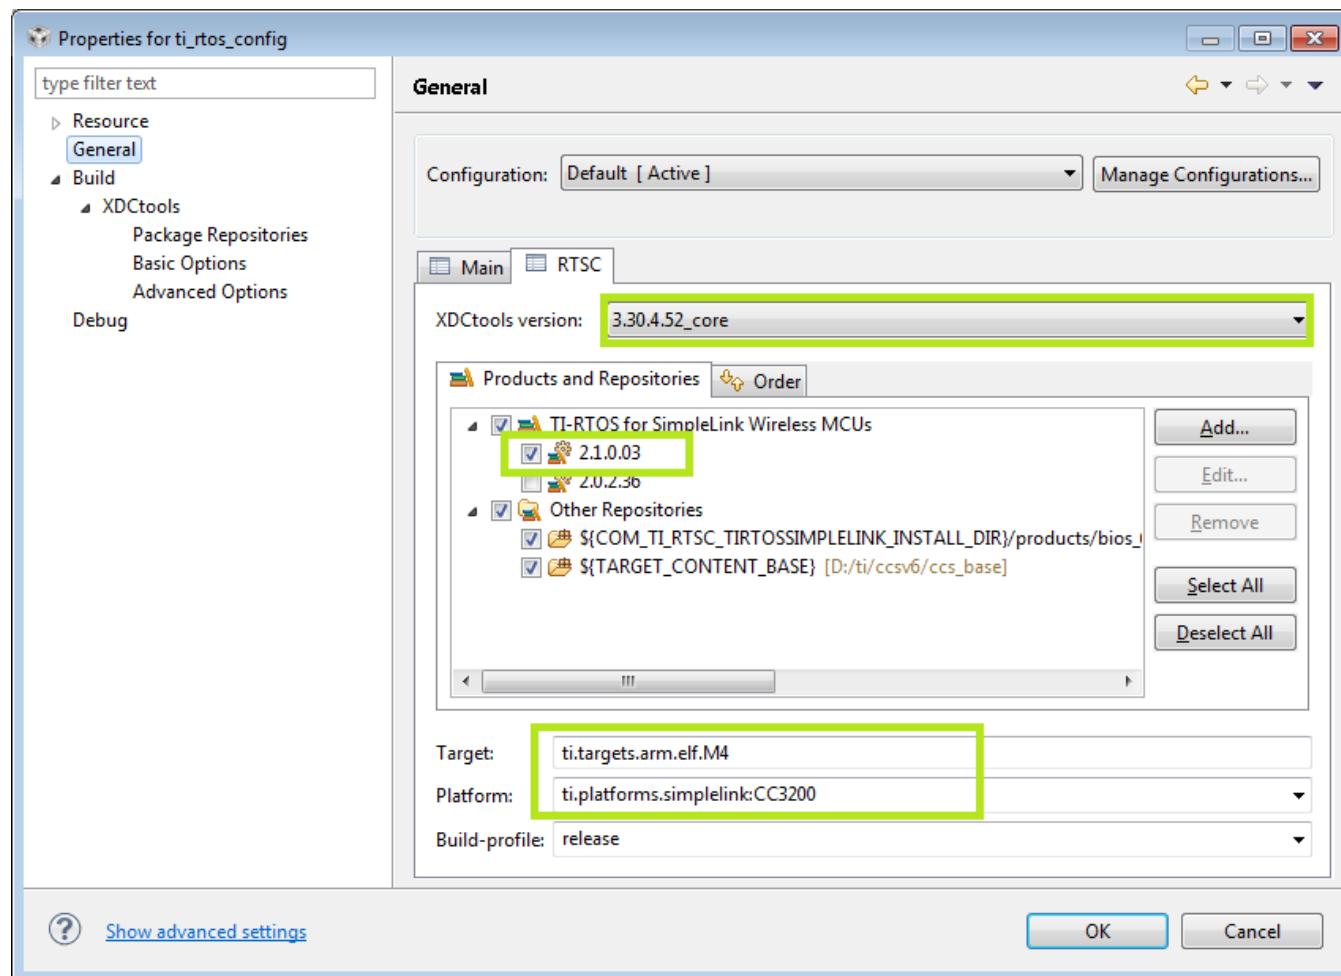

Figure 7. Properties for *ti_rtos_config*
4. Select the *ti_rtos_config* project in Project Explorer, and select *Project>Properties* from the menu. Setup the *ti_rtos_config* project configuration as shown in Figure 7. Select the latest versions of XDCtools and TI-RTOS for SimpleLink. Also verify the platform is selected as *ti.platforms.simplelink:CC3200*.